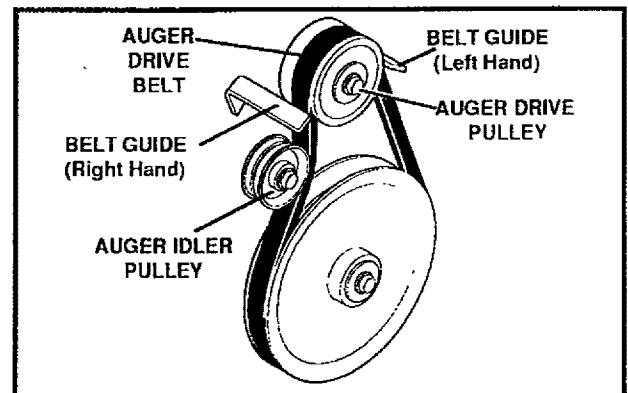

FIG. 5
- Loosen the belt guides (See FIG. 5) and pull away from the auger drive pulley.